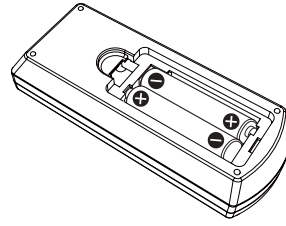

Fig. 2
- 2) Insert batteries and close the cover (insert the "●" side first). (Fig. 2)